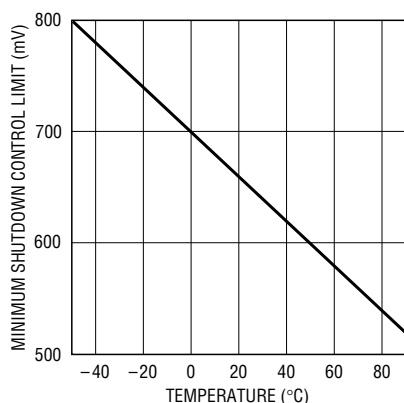

Figure 4. Minimum Shutdown Control Limit vs Temperature
When shutting down the LT1680, the RUN/SHDN pin voltage must remain between the shutdown threshold ( $\sim 1.13\text{V}$ ) and a minimum shutdown control limit voltage (see Figure 4) for a least  $25\mu\text{s}$ . If a digital input or fast moving clamp is used, this can be achieved by forcing a shutdown control voltage above the minimum limit or by using a simple integrator to increase the fall time of the input signal. A single pole integrator stage must have a  $\tau \geq (7)(10^{-5})$ .